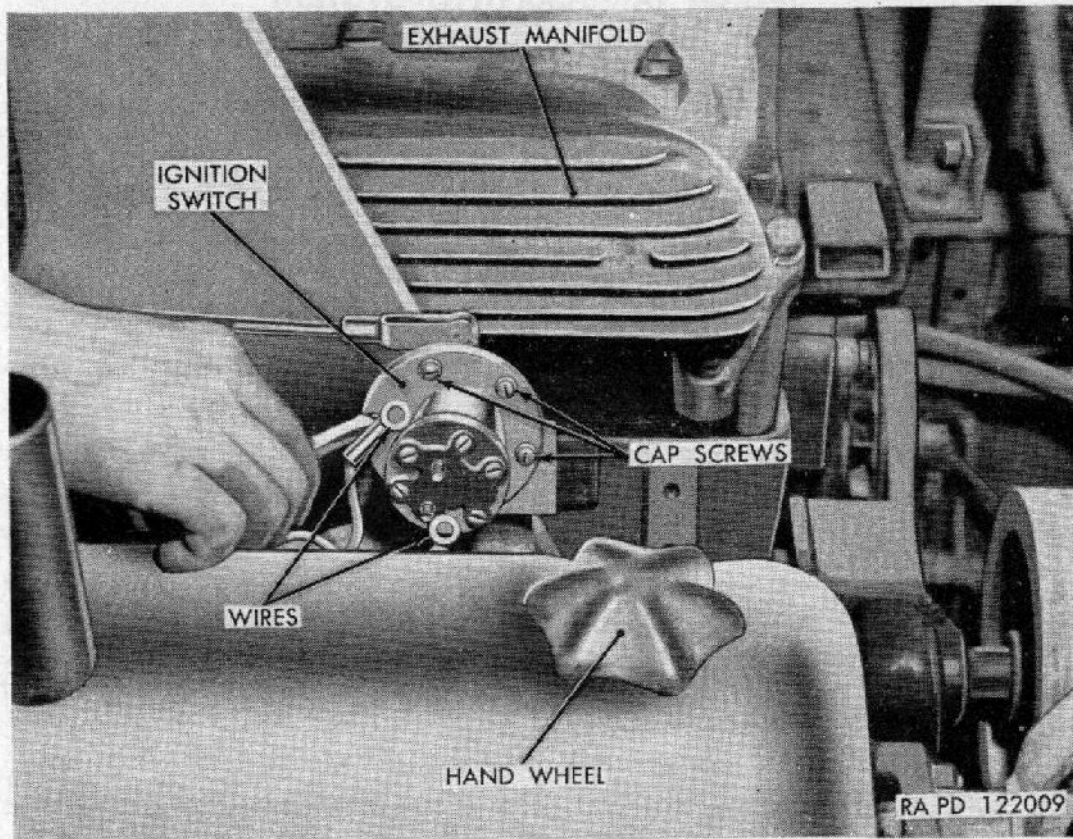

Figure 66. Engine ignition switch removal.
left engine junction box is located on the left side of hull above the engine starter (fig. 70). Each harness has six high tension ignition cables inclosed in the conduit. Each engine has its own complete ignition system. The ignition switches are located on top of the intake manifolds (fig. 66). When the engine shut-off control knob (fig. 6) is pushed in against its top, the ignition switch prevents the engine from continuing to run through self ignition. The engine air shut-off valves are also operated by the engine shut-off control knobs.
- (5) *Ignition switches and wiring.* Each engine ignition switch is mounted on a bracket to the rear and on top of each intake manifold (fig. 66). The ignition switch is used in conjunction with the engine air shut-off valve to prevent the engine from running by self ignition when the engine shut-off control knob is pushed in. Wires for each engine are contained in a separate wiring harness connected to electrical junction boxes on each side of the hull sides. The right engine junction box is located to the rear of the engine oil filters (fig. 46) and left engine junction box is located above the engine starter (fig. 70). When removing the engines, these connections are disconnected at the junction boxes. The spark plug terminal cables are grouped together with a bracket to prevent the plug terminal wires from getting damaged.
a. Ignition Switch Removal. Open engine compartment door. Remove two nuts from the ignition switch terminals (fig. 66). Remove five cap screws from ignition switch (fig. 66) and remove switch from housing.